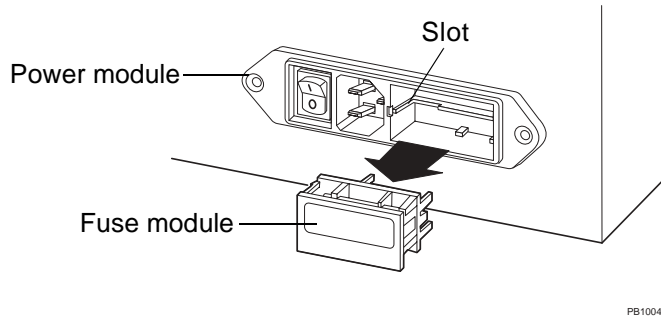

Figure 2-4 Removing the Fuse Module
2. Remove the fuse module by inserting a small flathead screwdriver in the slot beside the power plug and sliding out the fuse module (Figure 2-4).